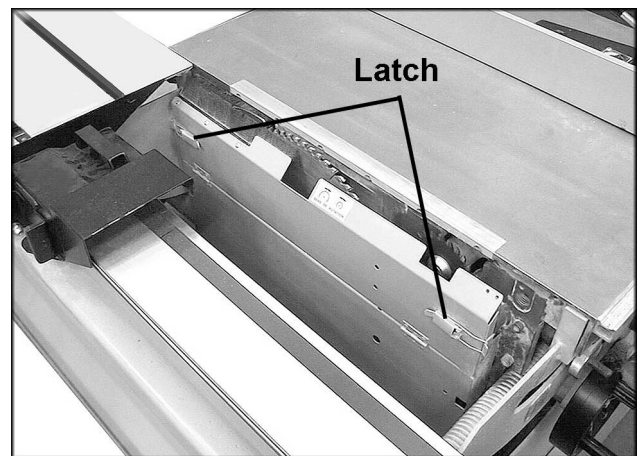
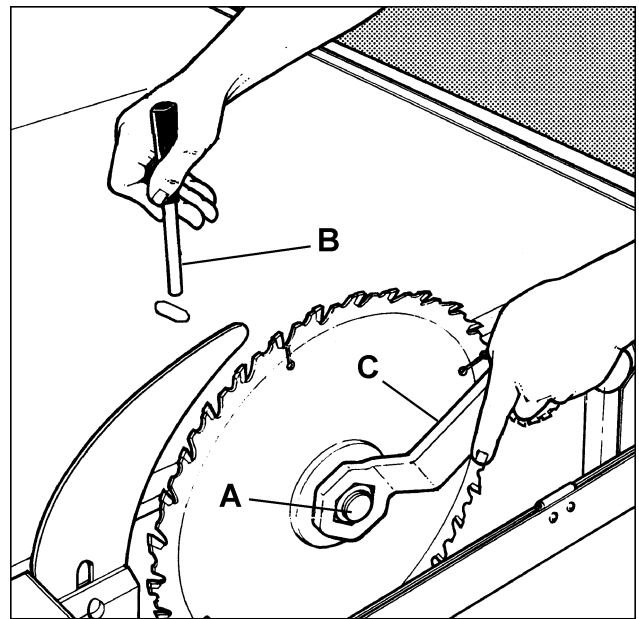

FIGURE 9
FIGURE 10
3. Release the two latches on the blade cover, shown in Figure 9, and open cover.
4. Raise main blade arbor to its highest position and place spanner (C-Fig. 10) over the arbor nut (A-Fig. 10).
5. Insert the steel pin (B-Fig. 10) into the hole in the cast iron table. Turn the arbor with the spanner until the steel pin (B-Fig. 10) engages the hole in the arbor pulley.
8. Remove locking pin (B-Fig. 10). Close cover and secure both latches (Fig. 9).